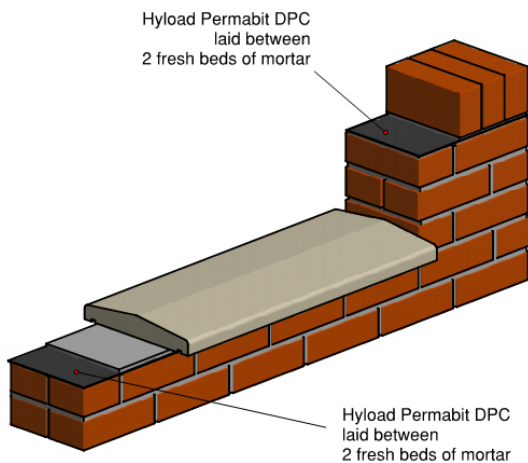

Figure 3 – Coping Stones and Brick-on-Edge Detailing
- Underneath coping stones or units that create an overhang to the wall surface below, the edge of the DPC should project no less than 5mm beyond the face of the wall surface (Figure 3);